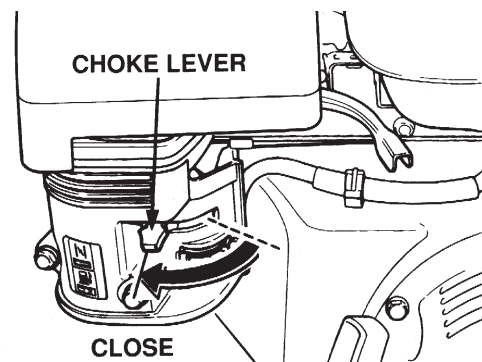

Figure 22. Choke Lever (Closed Position)
6. If operating the SP2 in **cold weather conditions**, place the **Choke Lever** (Figure 22) in the **CLOSED** position.
- If the engine has started, slowly return the choke lever (Figure 22) to the **CLOSED** position. If the engine has not started repeat steps 1 through 8.
4. If operating the SP2 in **cold weather conditions**, place the **Choke Lever** (Figure 22) in the **CLOSED** position.